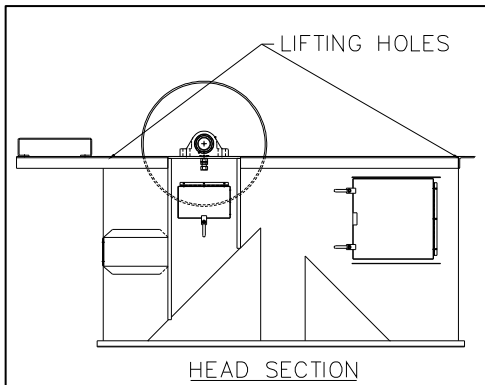

Figure 2-5, Lifting Hole Locations
- F. The last elevator section to be lifted into position onto the elevator is **ALWAYS** the head section. (The hood is not assembled until belt and cup installation is complete). Lift the head onto the top elevator section. See **Figure 2-5**. **DO NOT** install the hood at this time. Plumb the head section and fasten it to the elevator trunk.